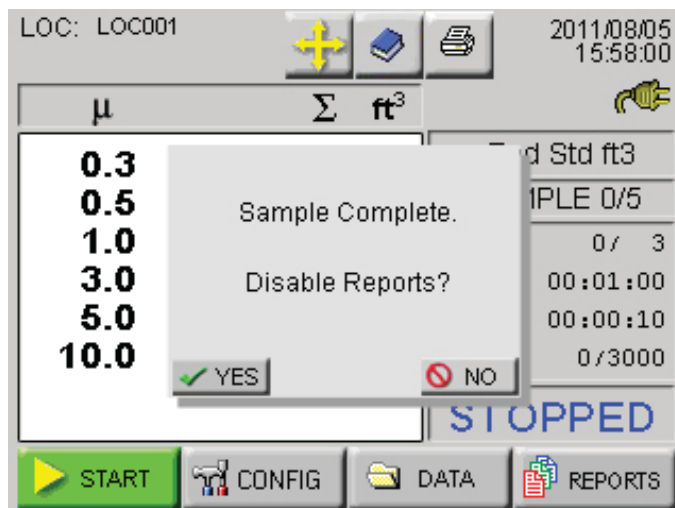

Figure 6-82 Disable Reports Prompt
- After the required number of samples have been completed, the instrument will prompt the user to disable Reports Mode as shown in Figure 6-82.